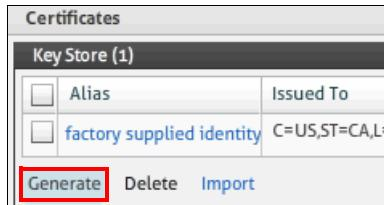

Figure 5-43 Generate self-signed certificate
- In the WMC, go to **Security → Certificates**, and in the Key Store section click **Generate**, as shown in Figure 5-43.